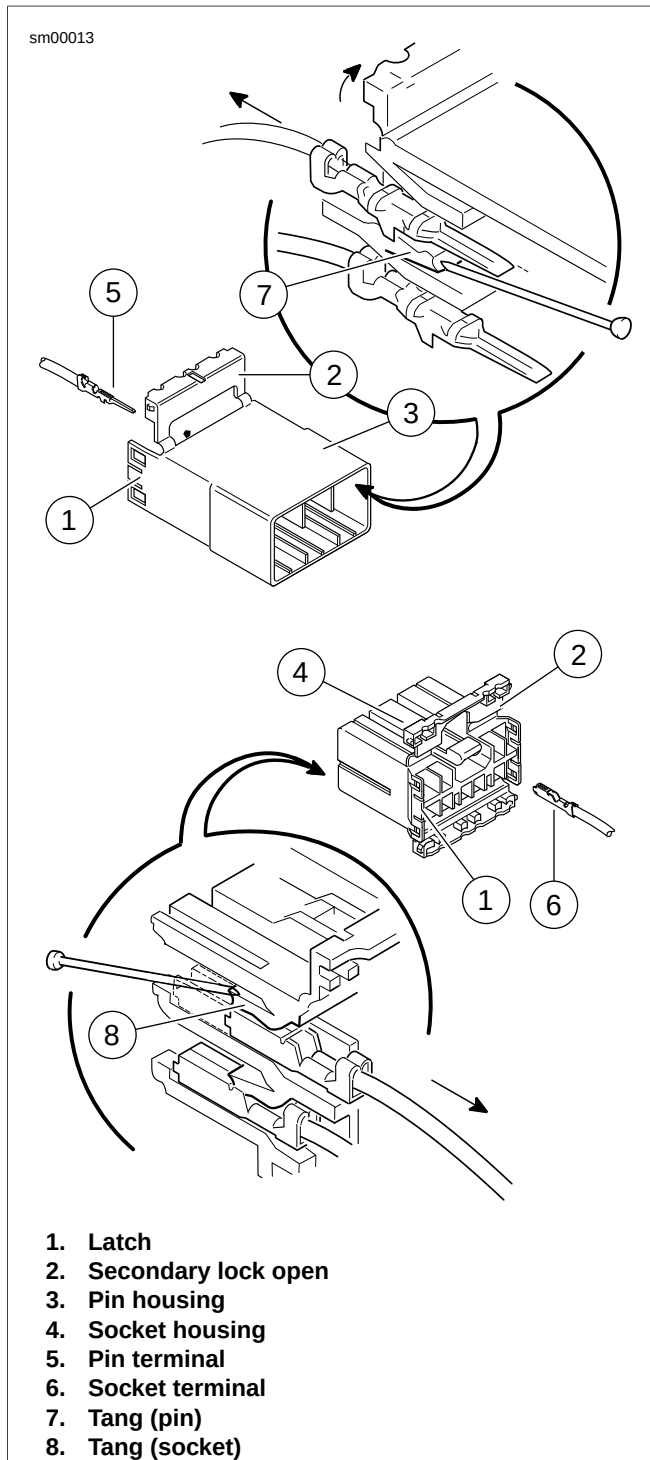

Figure A-56. Tyco 070 Multilock Unsealed Connector: Socket and Pin Housings
1. See Figure A-56. Bend back the latch (1) to free one end of secondary lock (2) then repeat on the opposite end. Hinge the secondary lock outward.